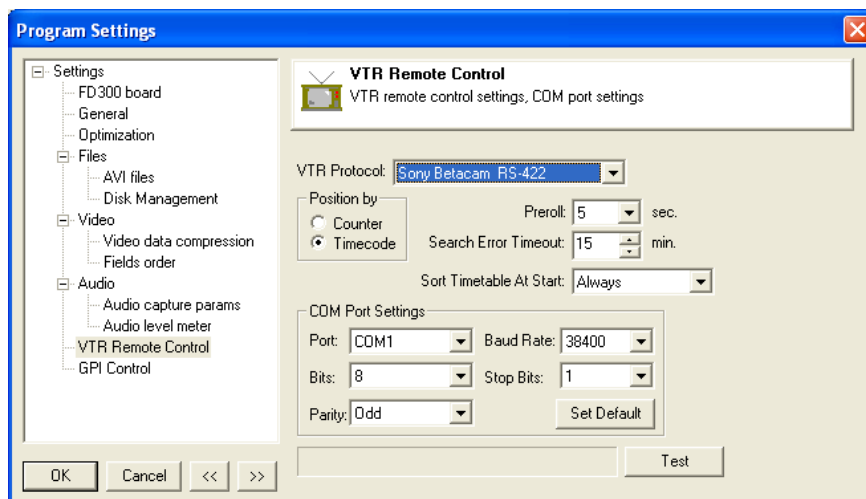

Figure 31. Settings result
connected VTR in the field on the left of the button (Figure 31).
2. Adjust the required VTR and COM port settings on the VTR Remote Control panel of the Program Settings dialog (Figure 31).